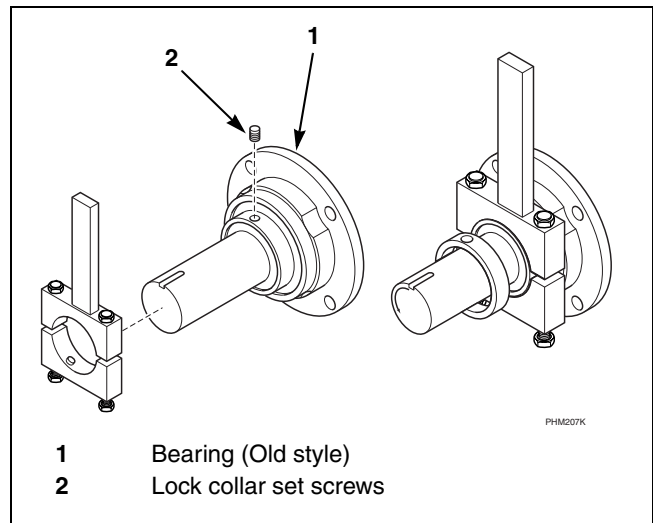

Figure 32
- i. If the machine's bearings are similar to *Figure 32* (old style bearing), loosen the lock collar set screws until both of the collars can be slid off of their bearing inner races. Grasp the inner race of the bearing with a pipe wrench and rotate the shaft by turning the basket. If this